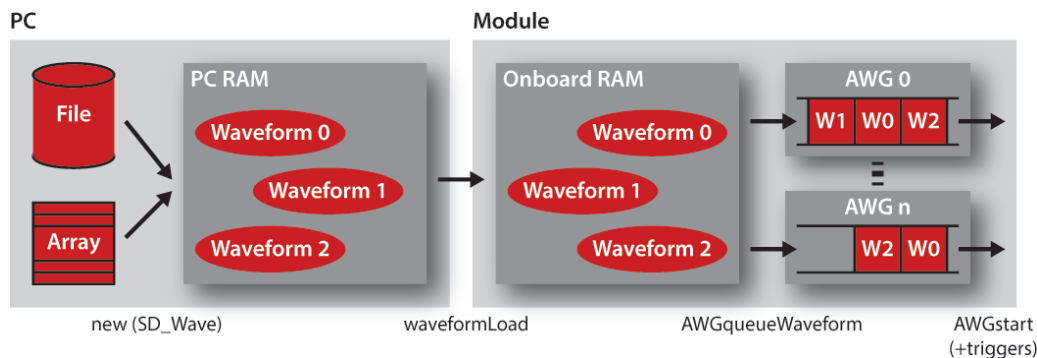

Figure 15: Step-by-step process to configure arbitrary waveforms
2. **Step-by-step programming:** Signadyne Programming Libraries provide full control of all the aspects of the arbitrary waveform generation (Figure 15 on the next page). Instead of using the function AWG, Section 3.2.3.21 on page 59, the step-by-step procedure is performed as follows: